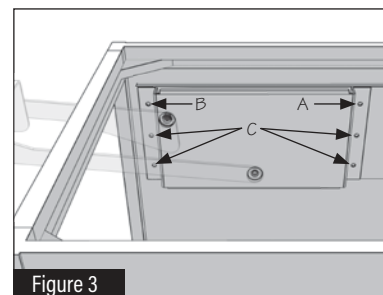

Figure 3
4 Identify the left Lift Mechanism and position it over the left spacer aligning it's (6) installation holes with the (6) spacer Lift Mechanism Mounting Holes. Install using (6) silver #8x3/4" screws in the following order (Fig. 3):